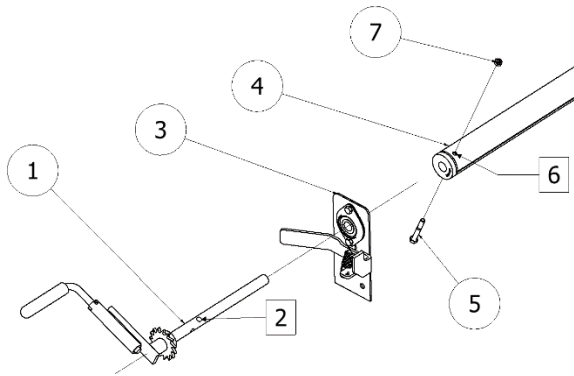

Figure 2.5
On the driver's side, slide the handle shaft (1) through the mounting bracket (3) and slide the tarp axle (4) onto the shaft. Line up the tarp axle hole (6) with the handle shaft hole (2). Secure the tarp axle to the handle shaft using a 5/16" x 2-1/4" hex bolt and hex nut (5). (Figure 2.5)